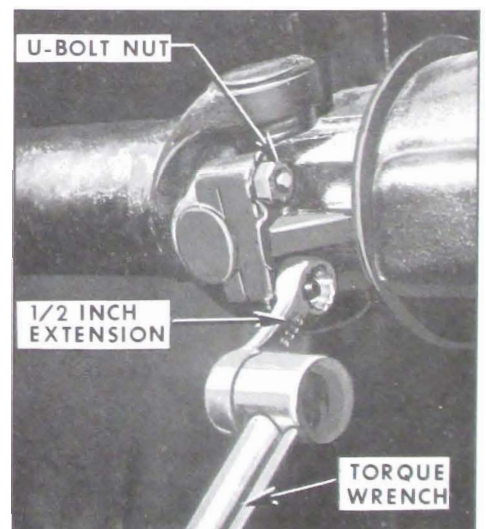

Figure 6-112—Using Extension to Torque U-Bolt Nuts
6. Install U-bolt clamps and nuts. Draw nuts up evenly and torque to 15-18 ft. lbs. using a 1/2 inch extension such as J-9113. (On 49000, install four pinion flange bolts and torque evenly to 75-95 ft. lbs.). See Figure 6-112. **CAUTION:** Overtightening U-bolt nuts distorts the bearings, causing a binding on the spider which can cause drive line shudder and also reduce the life of the bearings and spider.